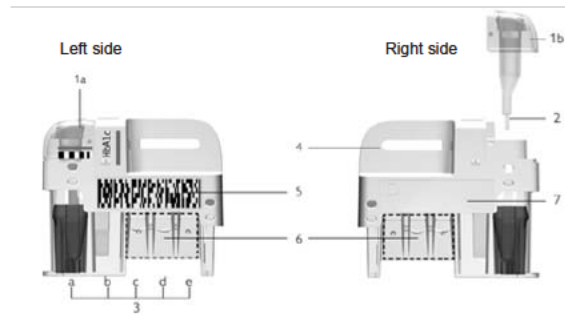

Figure 1 Alere Afinion™ HbA1c Dx Test Cartridge.
The main components of the Test Cartridge are the sampling device (1) and the reaction container (3). The Test Cartridge has a handle (4), a barcode label with lot specific information (5) and an ID area for sample ID (7). See Figure 1 below.
- Do not touch the Test Cartridge optical reading area (figure 1).